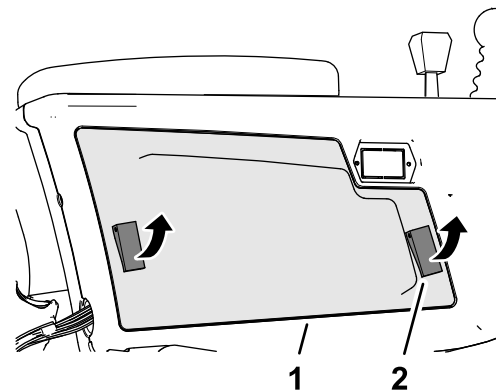

Figure 96
- Open the 2 latches that secure control-arm cover to the control arm, and remove the cover (Figure 96).